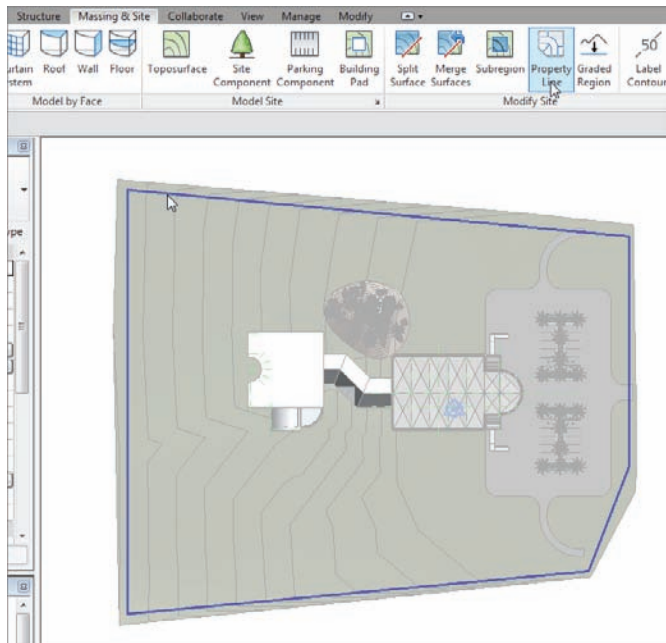

FIGURE 18.24 Adding a property line
2. In the Massing & Site tab, click the Property Line button, as shown in Figure 18.24.
4. Draw a series of lines around the perimeter (see Figure 18.24).